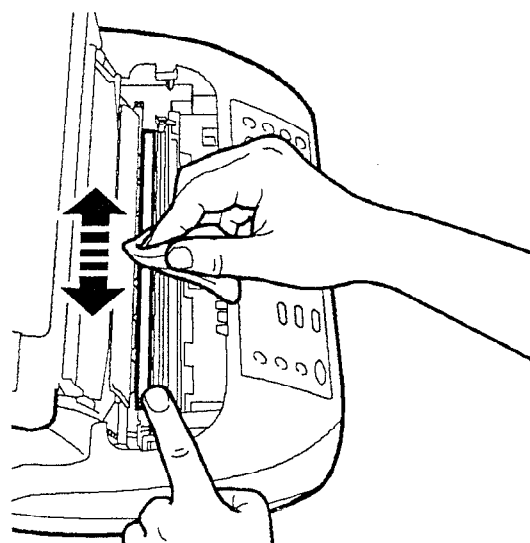

Fig. 7-6
- 3) Keeping the screen raised, clean the optical unit glass using a cloth dampened with a specific glass cleaning product, then carefully wipe dry (fig. 7-6).